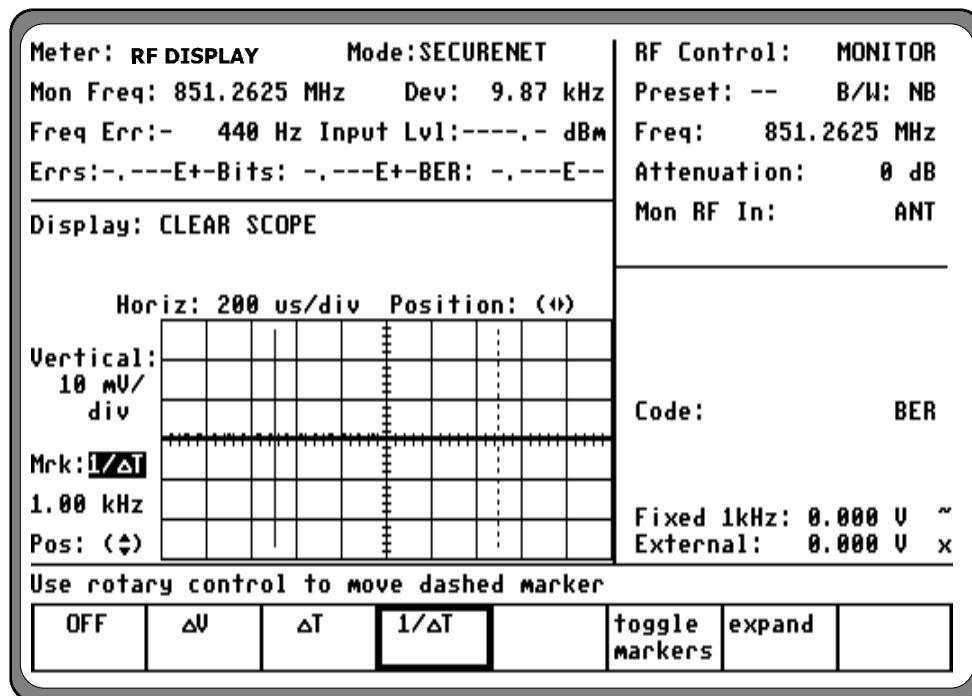

Figure 14-7. SECURENET CLEAR SCOPE Display of Recovered Audio
6. Place cursor in the "Display:" field and press CLEAR SCOPE softkey. The CLEAR SCOPE screen should appear similar to figure 14-7. No waveform is present until the transmitter is turned on.